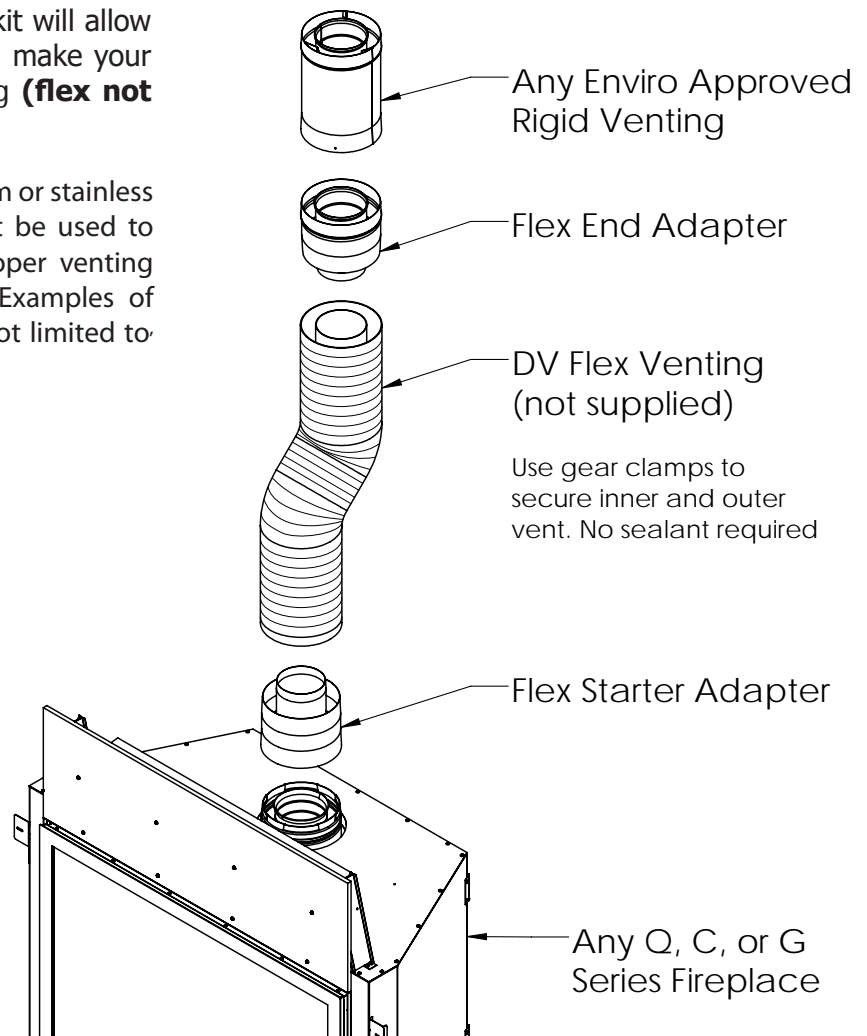

Figure 42. Flex Adapter Kit Install
- (2) When ever possible, use 45° degree elbows instead of 90° degree elbows. The 45° degree elbow offers less restriction to the flow of flue gases and intake air.
- (3) For multi story installations; a ceiling firestop is required at the second floor, and any subsequent floors (see Figure 42). The opening should be framed to **10" (254 mm) x 10" (254 mm)** inside dimensions, in the same manner as shown in Figure 39.
- (4) Any occupied areas above the first floor, including closets and storage spaces, which the vertical vent passes through, must be enclosed. The enclosure may be framed and sheet-rocked with standard building materials. However consult the appliance manufactures installation instructions for the minimum allowable clearance between the outside of the vent pipe, and the combustible surfaces of the enclosure. Do not fill any required air spaces with insulation.